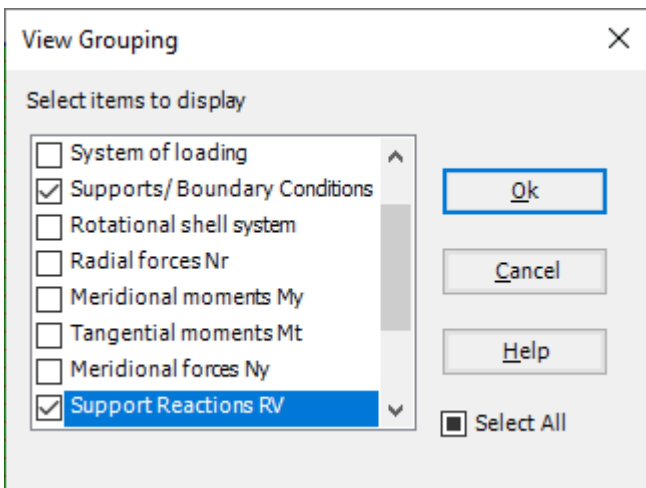

Figure 4.28 "View Grouping" check group box
- From "Options" menu in the "Graphic" tab, choose "View Grouping" command. The "View Grouping" check group box in Figure 4.28 appears